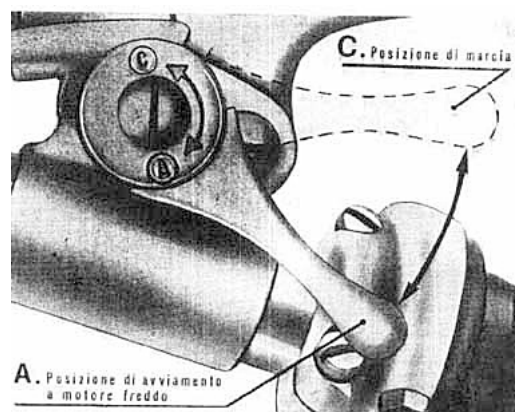

Fig. 16
CARBURETOR STARTER LEVER (FIG. 16)
- the easy start lever (when starting from cold) is in the open position [See - «A» in fig. 16).
When the above has been checked, twist the gas grip 1/4 turn and push the start button on the R/H side of the handlobar. After the engine has started and before returning the easy start lever to its normal riding position («C» in fig. 16). let the engine idle for a short while in the hot and a few minutes in the cold seasons to allow the oil to reach all the lubricating points and the cylinders to get warm.